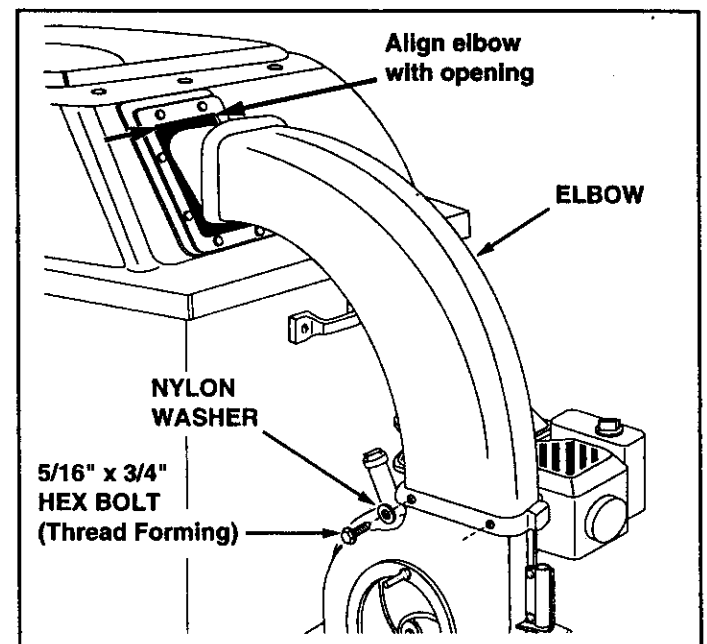

FIGURE 23
- Assemble the elbow to the impeller housing, using four 5/16" x 3/4" thread forming hex bolts, and four nylon washers. Align the upper end of the elbow side to side with the opening in the hard top. **Tighten** the bolts. Pull the boot forward over the end of the elbow. See figure 23.